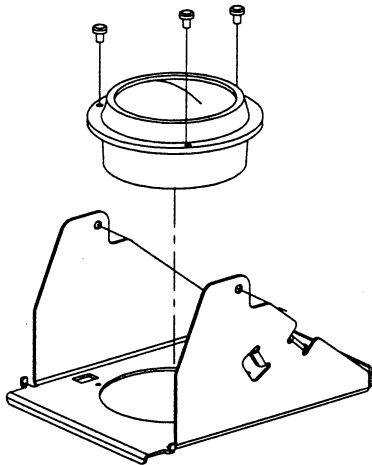
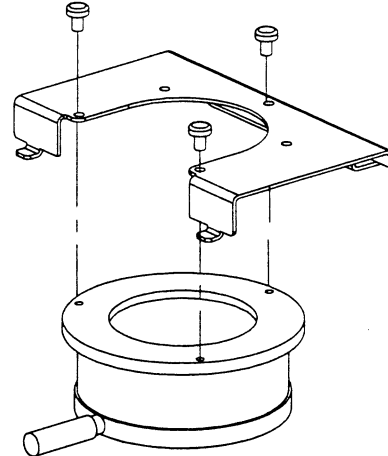

Figure 5-7. Triplet Lens
Figure 5-8. Varifocal Lens
3. Remove retaining screws securing triplet lens (Figure 5-7) or varifocal lens (Figure 5-8).